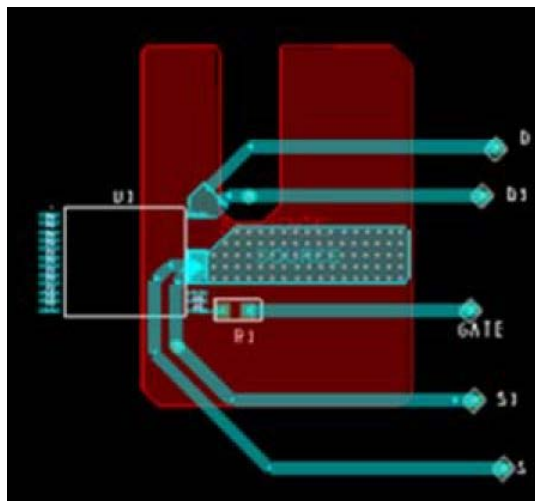

Figure 22. Thermal Resistance Test Conditions for PowiGaN Devices (LYT6078C, LYT6079C and LYT6070C.)
Testing performed on custom thermal test PCB as shown in Figure 22. The test board consists of 2 layers of 2 oz. Cu with the InSOP package mounted to the top surface and connected to a bottom layer Cu heat sinking area of 550 mm².
4. Please see Figure 22.